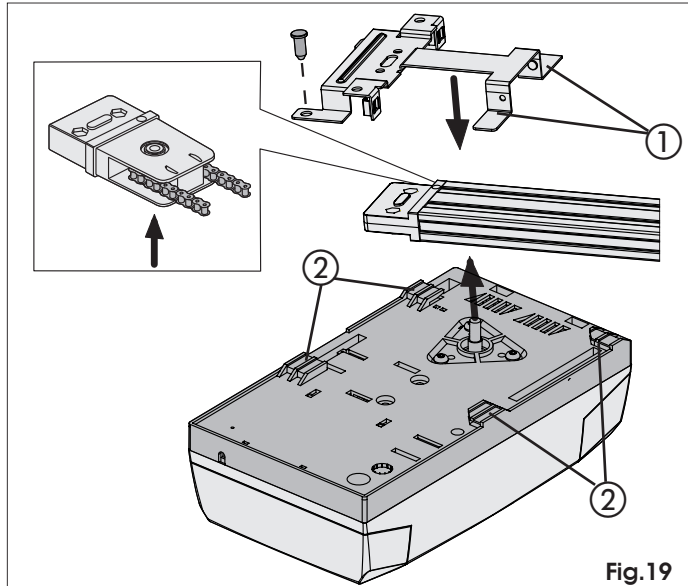
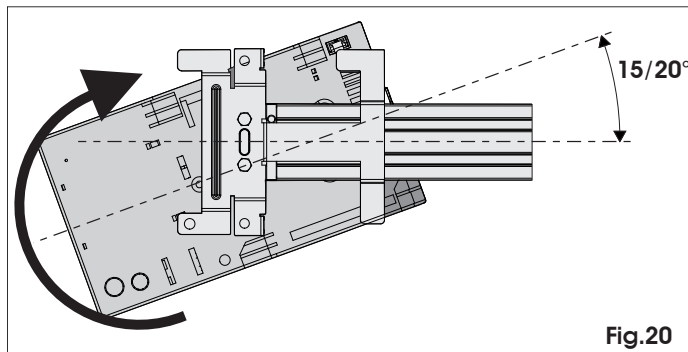
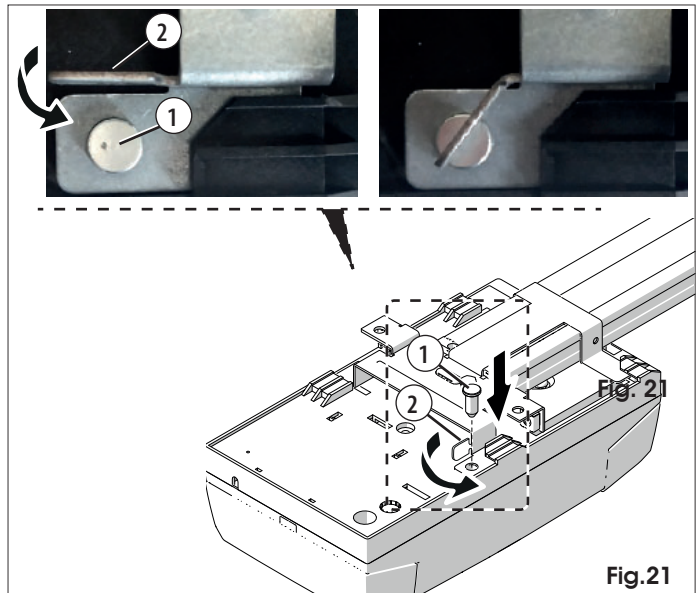

Fig.19
Fig.20
Fig.21
- 1) While keeping the operator inclined at 15/20° (Fig. 20), insert the gearmotor shaft in the coupling on the rear fitting of the sliding guide and make the fins (Fig. 19 ref. ①) near to the seats at the bottom of the operator base (Fig. 19 ref. ②).
- 2) Turn the operator in the direction of Fig. 20 until you reach position of Fig. 21.
- 3) Insert the shear pin (Fig.21 ref. ①). Bend the mounting lug (ref. ②).